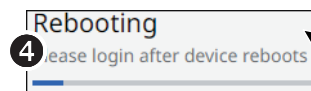

Figure 87. Transfer Endpoints Progress
The restore process of the endpoints settings is reported in the In process field (see figure 87, ①).